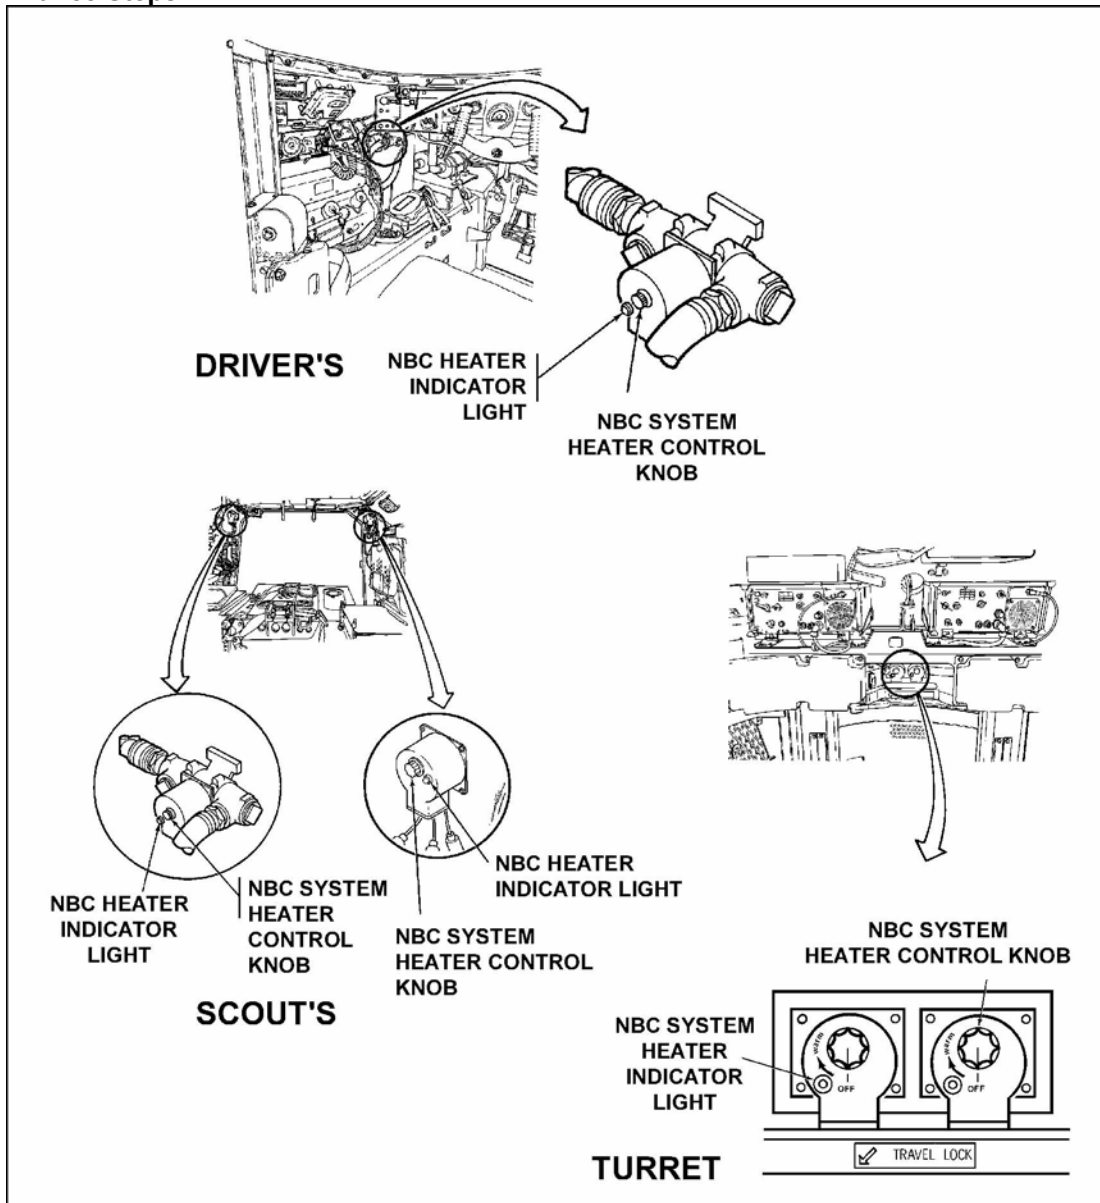

Figure 4. Gunner control handles.
10. Traverse the turret by using the gunner's control handles (Figure 4).